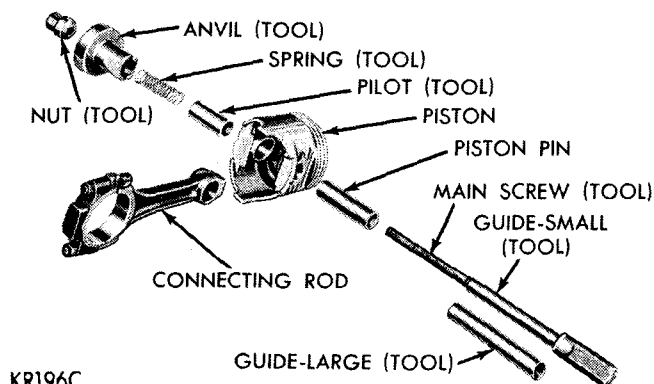

Fig. 38—Arrangement of Tool C-4158 For Installing Piston Pin
(1) Test piston pin fit in the piston. It should be a sliding fit in the piston at 70 degrees F. **Piston pins are supplied in standard sizes only.**
(2) Lubricate piston pin holes in the piston and connecting rod.
(3) Select appropriate pilot and anvil shown in chart for use with Tool C-4158.
(4) Arrange Tool C-4158 parts for installation of piston pin (Fig. 38).
(5) Install spring inside the pilot and install spring and pilot in the anvil. Install piston pin over main screw.
(6) Place piston, with "front" up, over the pilot so pilot extends through piston pin hole.
(7) Position connecting rod over the pilot which extends through piston pin hole.
(8) Install main screw and piston pin in piston, (Fig. 38).